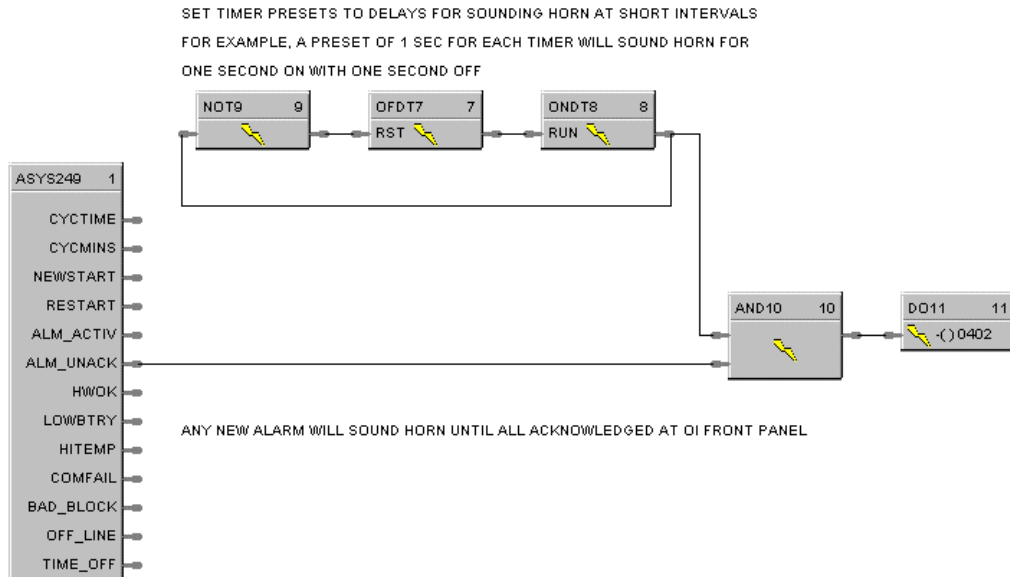

Figure 72 Alarm examples
- System Alarm (for common alarm output - Unack'd alarms active, alarm active)—*See Figure 72.*